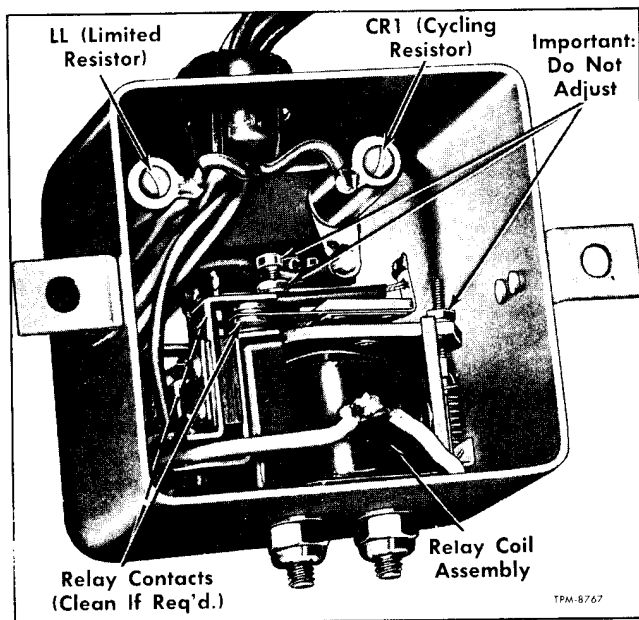

Figure 41—Heating System Control Relay (Special Controls)
Heating control relay (fig. 41) is mounted in driver's control panel junction box located at lower left side of driver. Relay is accessible after closure panel is removed as shown in figure 4 in ELECTRICAL (SEC. 7A). See item 16.